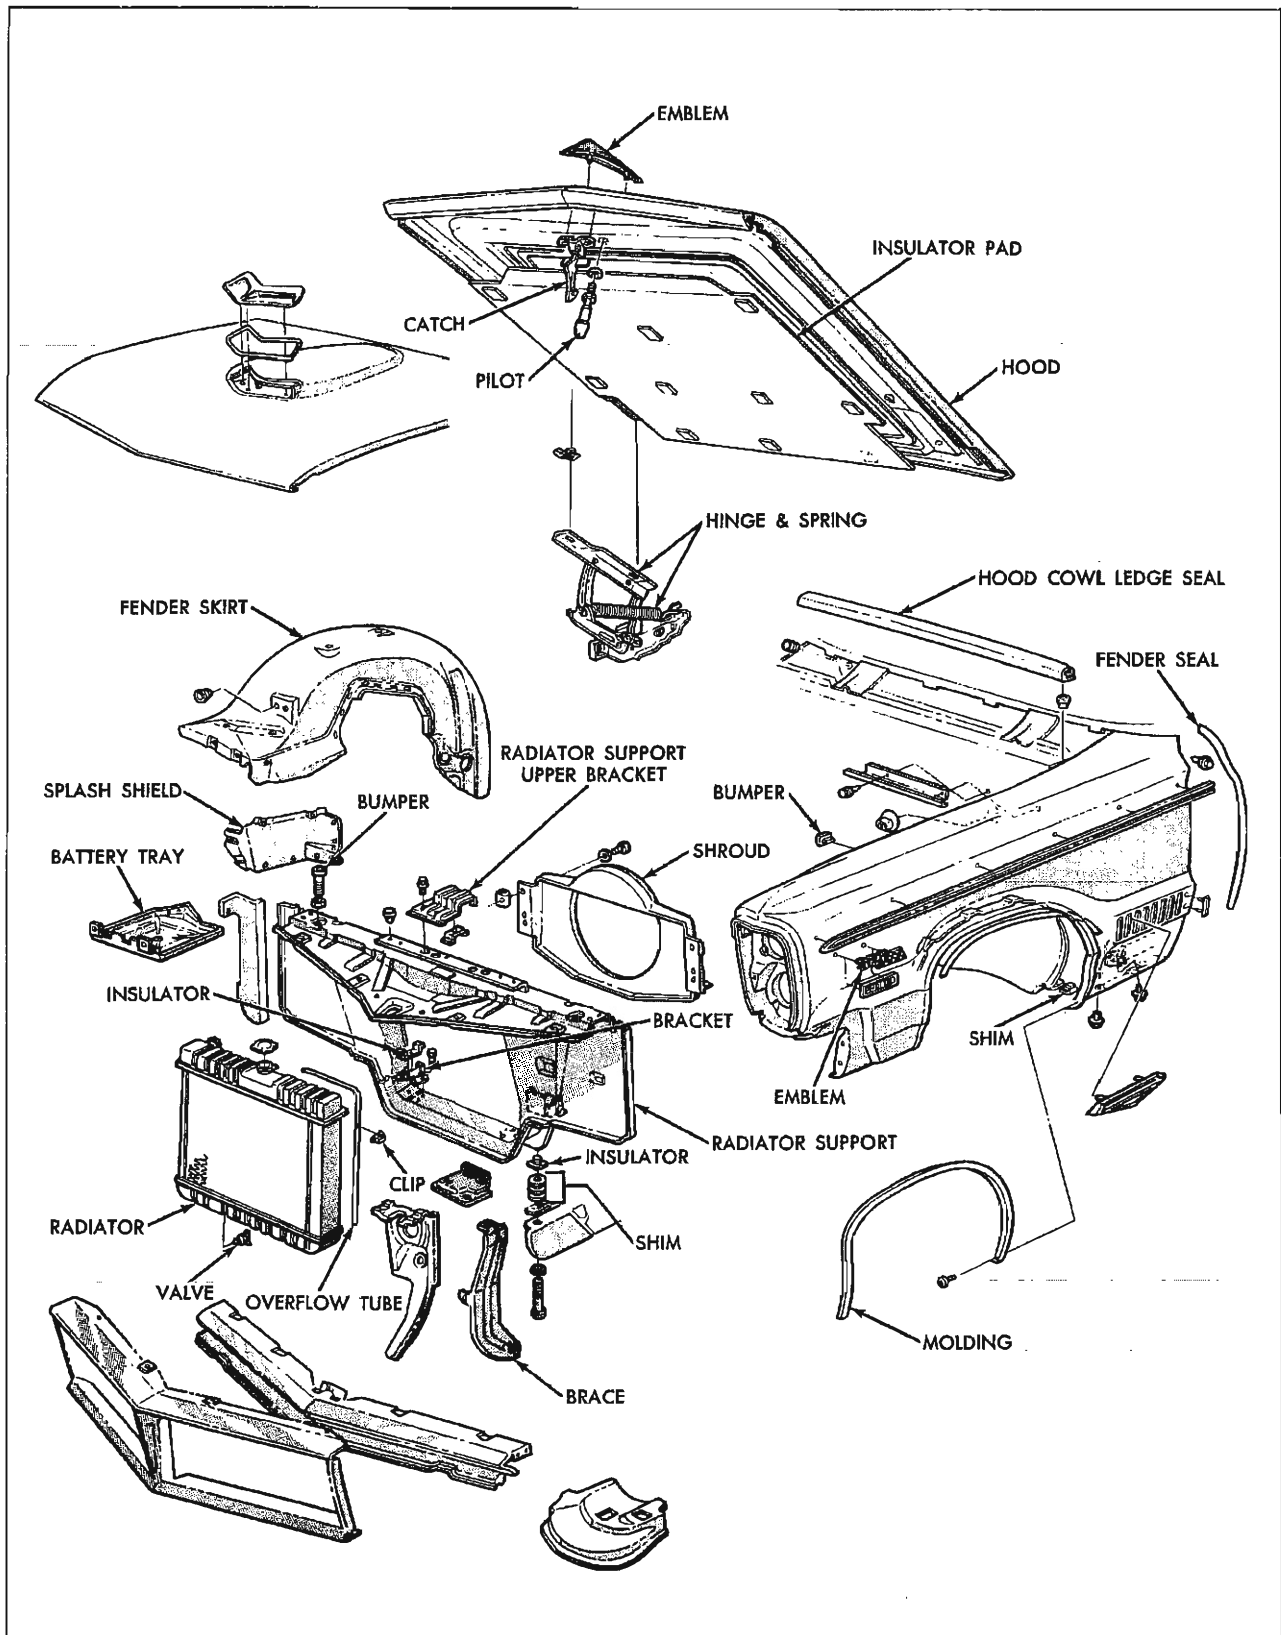

Fig. 10-9 Exploded View-Sheet Metal
Fenders can be moved closer to or farther from the cowl by adding or removing shims between fender and cowl (Fig. 10-9). Fenders can also be adjusted vertically by shifting the fender on the enlarged bolt holes.
2. Raise or lower hood bumpers on front fender cross brace (Fig. 10-9).